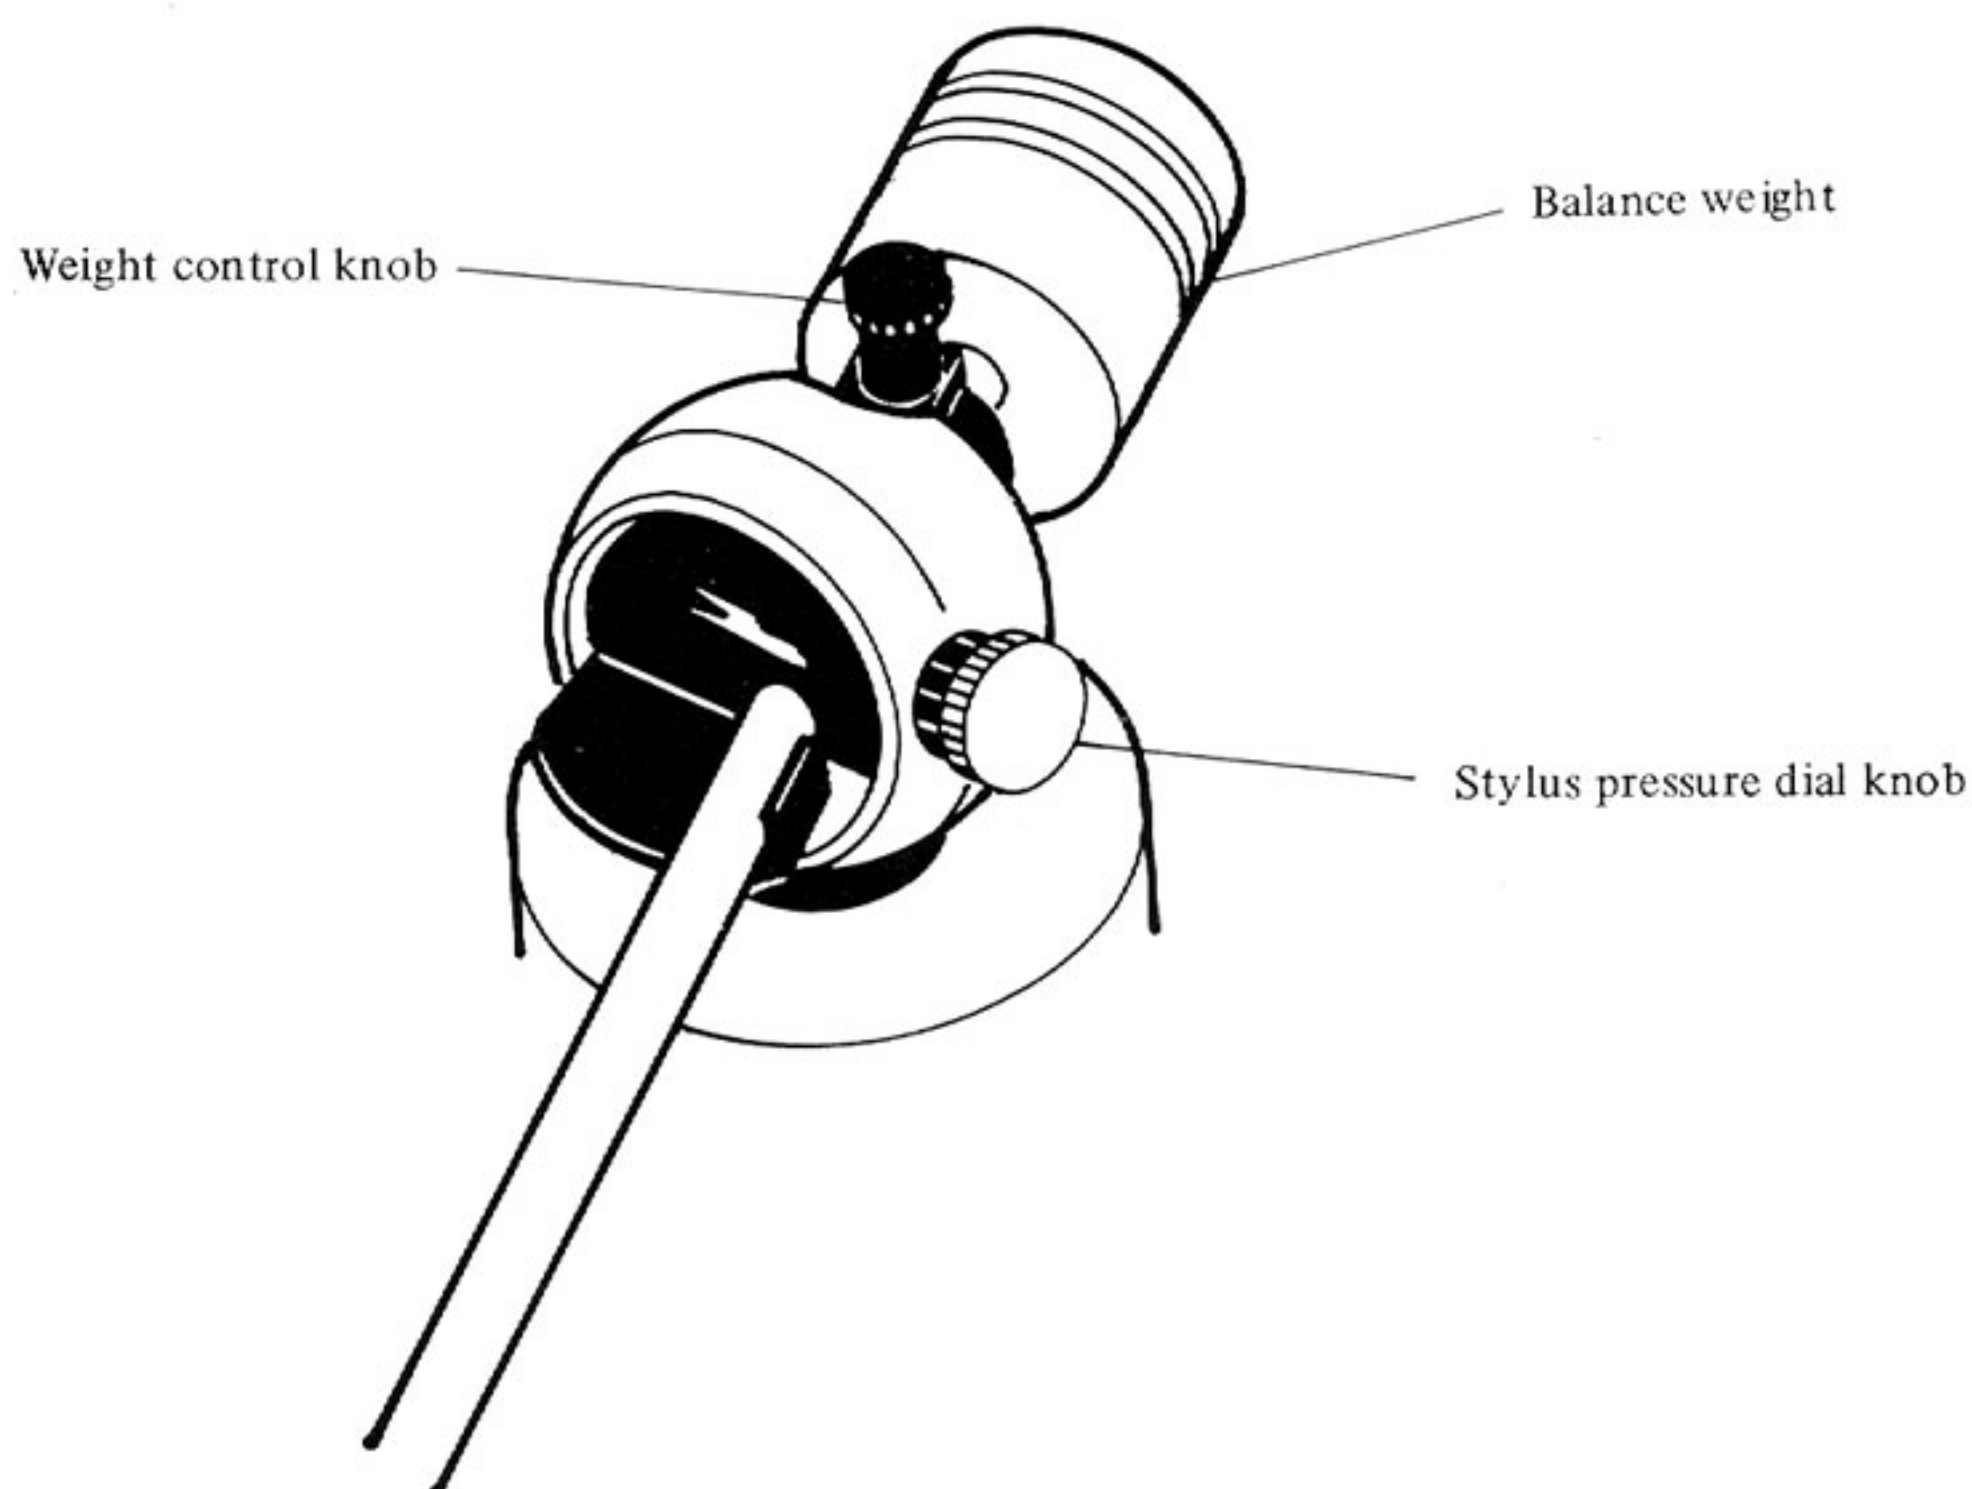

Fig. 5
7. Adjust the stylus pressure to 0 gr. (the tone arm will be parallel to the motor board) by moving the weight back and forth with a screwing motion. Then adjust the stylus pressure properly by turning the stylus pressure dial knob. (Fig. 5)
First set the stylus pressure adjustment dial to “zero”, and by moving the main weight back and forth, adjust the tone arm so that it is parallel to the motor board (zero balance). When both ends (cartridge and weight) of the tone arm are balanced, they are in a state of “zero balance”. Then, set the stylus pressure dial knob to the position specified for the cartridge. (Fig. 5)